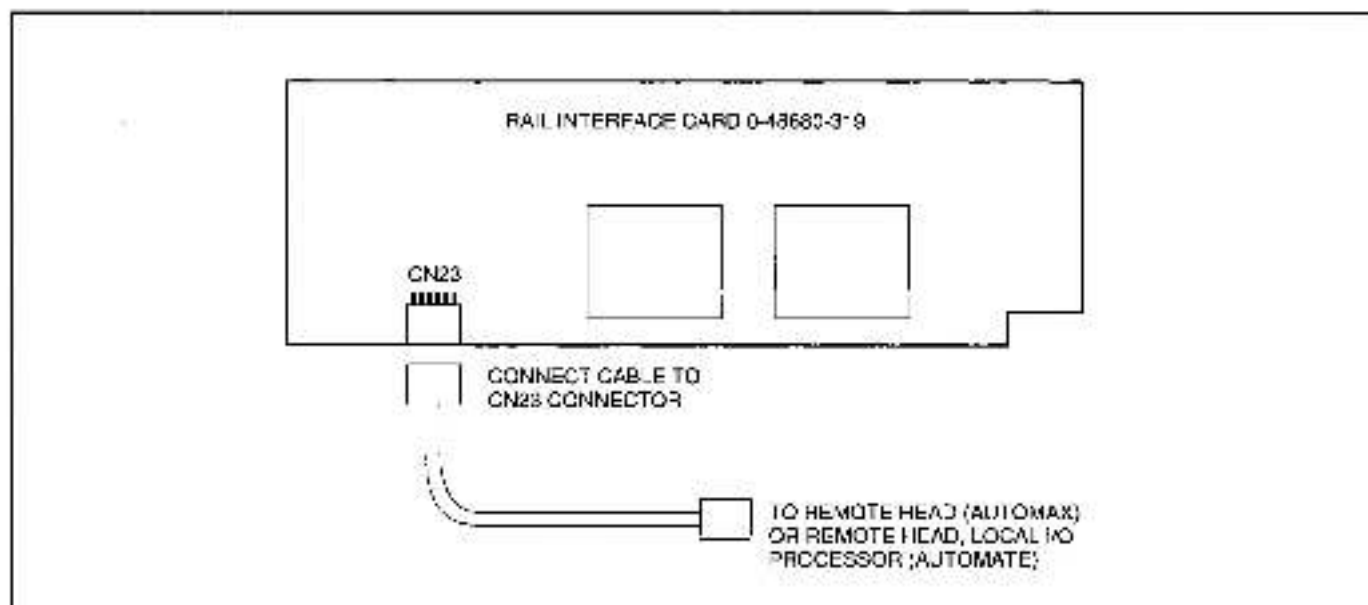

Figure 5. Cable Connection (M/N 45C8) to the Rail Interface Card.
2. Connect one end of the cable to the CN23 connector on the Rail Interface card as shown in Figure 5. Note that the cable connectors are keyed for proper insertion.